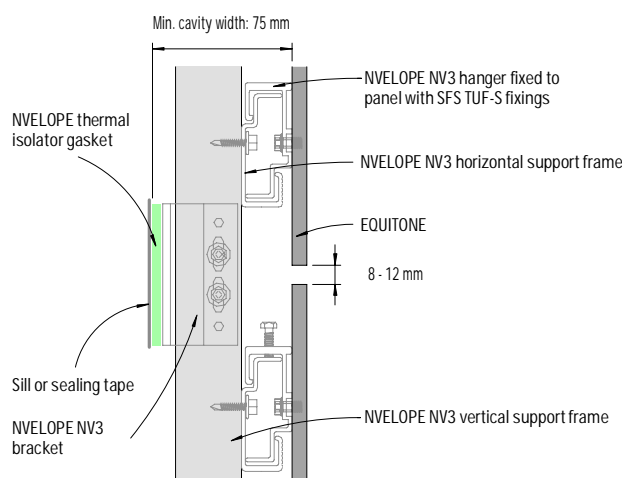

Figure 3: Open horizontal joint
- 1) Horizontal open joint detail (Figure 3 & 4) requires project engineer's evaluation and approval, and the selection of appropriate UV resistant weather resistive barrier (membrane).